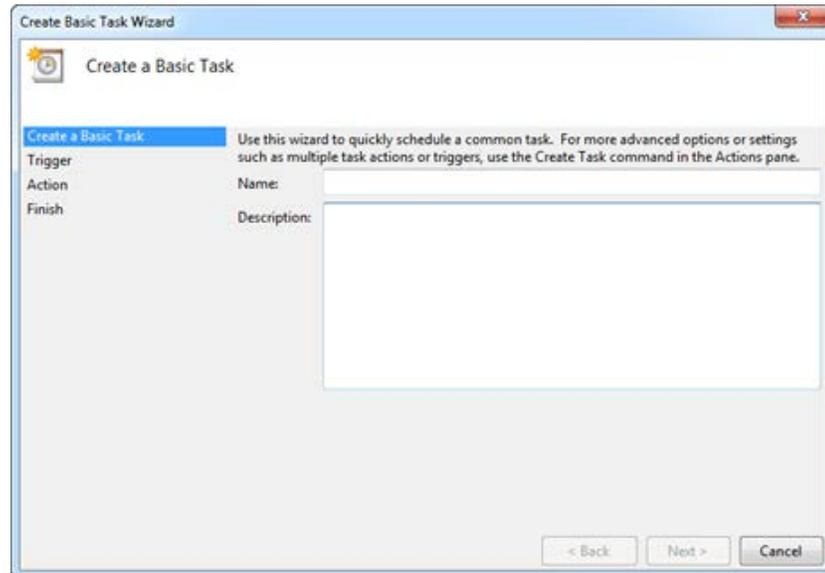

Figure 68. Create Basic Task Window
- 2 Click **Create Basic Task** on the Actions panel on the right side of the Task Scheduler window. The **Create Basic Task Wizard** window opens. See Figure 68.